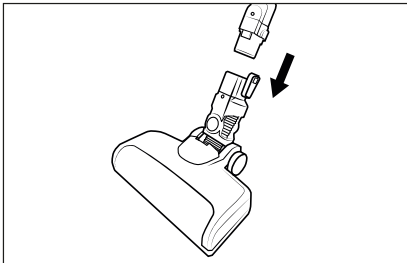

Fig. 2
- 2) Push the suction pipe **24** into the floor brush **22** until it audibly clicks into place (see Fig. 2).